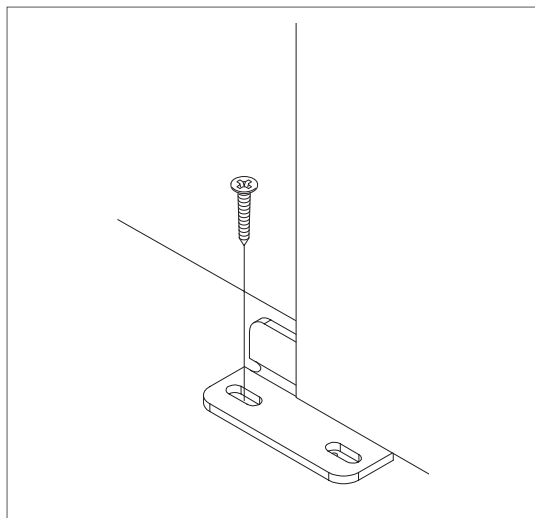

Figure 8
14. Position the Door Guide part way into the groove in the bottom of the door (Figure 8).